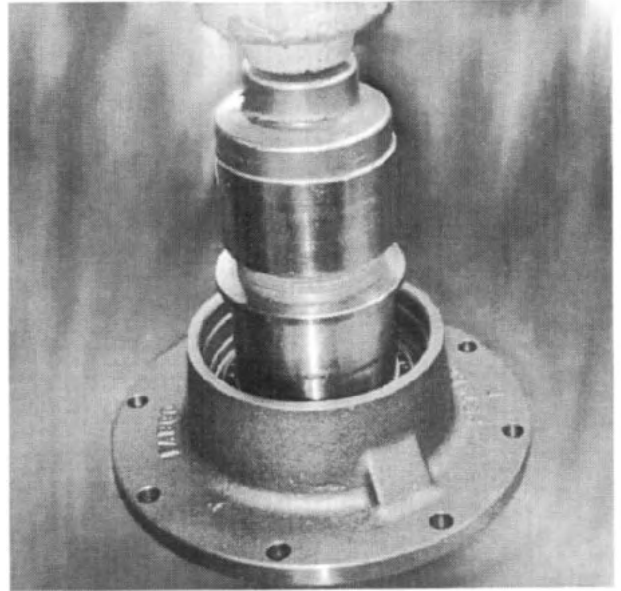

Fig. 53
6. To check shaft end float, install special tool # 866 751. Tighten the lock nut down. See Fig. 53.